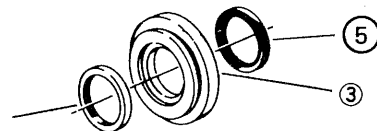

Fig. 132
- (13) Remove X-ring seal (5) from seal grand bushing (3) (Fig. 132).
- (14) Separate dust seal (1) from bushing (3) using a screw driver (Fig. 132).